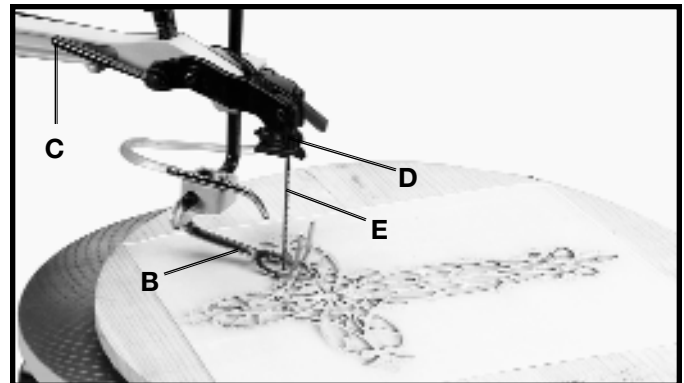

Fig. 38
Place blade (E) Fig. 38, back into the upper blade holder and tighten blade by moving lever (D) forward. Move tension lever (C) to the rear and lower spring holddown (B). You are ready to make the next inside cut.